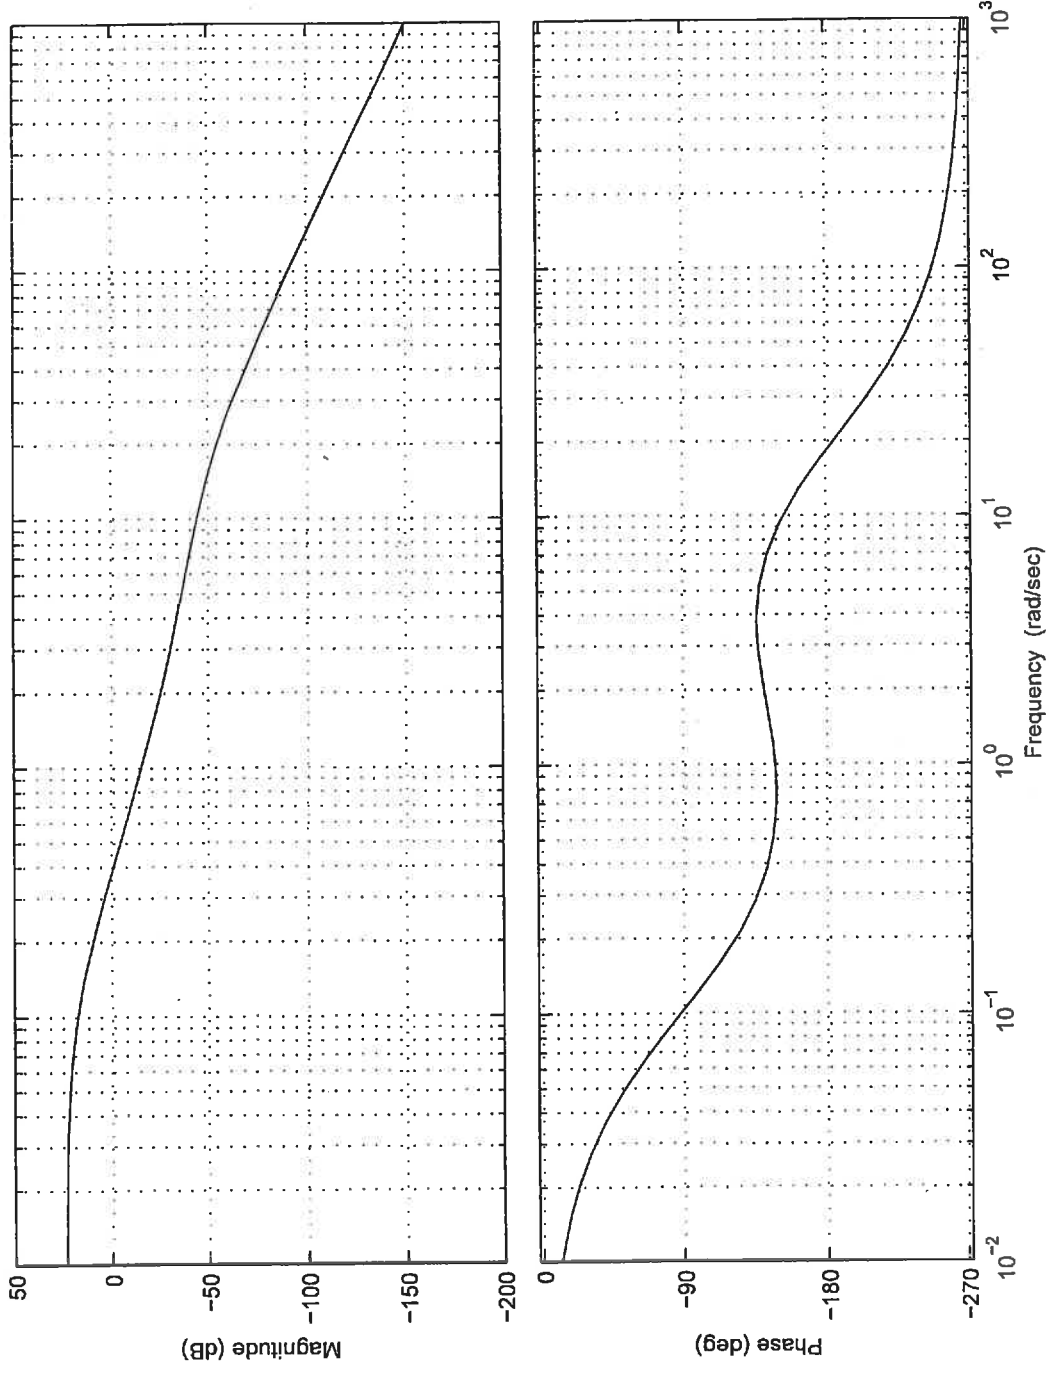

Figure Q6.2
- 1) (5 marks) Open loop frequency response plots of $G(s)$ are shown in Figure Q6.2. Check what the current values of the Phase margin, Φ_m , and the Crossover Frequency, ω_{cp} are and place your answers in Table Q6.1. Next, estimate the uncompensated closed loop step response specs: Percent Overshoot, PO, Steady State Error, $e_{ss(step\%)}$, and Settling Time, $T_{settle(\pm 2\%)}$. Place the specs values in Table Q6.1 as well.